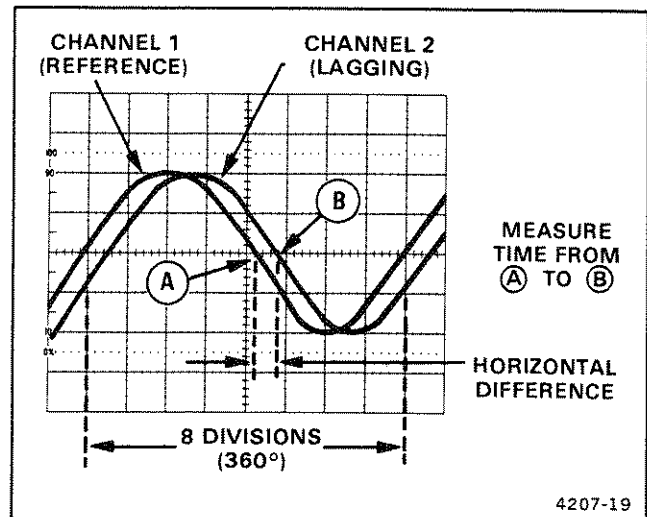
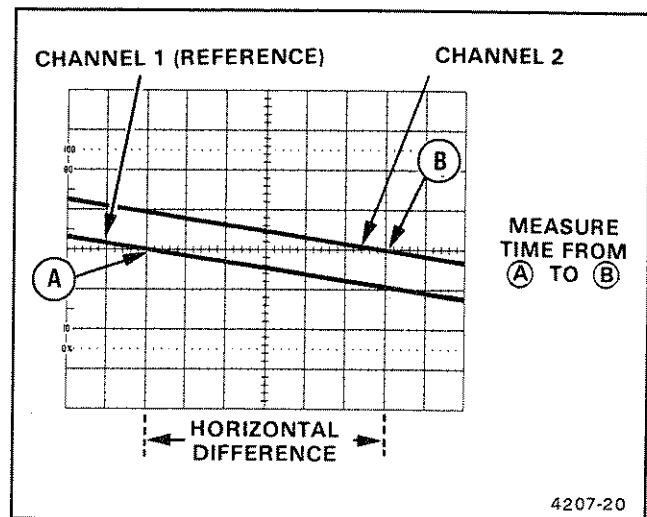

Figure 2-17. Phase difference.
Figure 2-18. High-resolution phase difference.
9. Position the displays and adjust the SEC/DIV Variable control so that one reference-signal cycle occupies exactly 8 horizontal divisions at the 50% rise-time points (see Figure 2-18). Each division of the graticule now represents 45° of the cycle (360° ÷ 8 divisions), and the horizontal calibration can be stated as 45° per division.
Example: The horizontal difference is 0.6 division with a graticule calibration of 45° per division, as shown in Figure 2-17.
EXAMPLE: If the sweep speed were increased 10 times with the magnifier (X10 Magnifier knob out), the magnified horizontal calibration would be 45°/division divided by 10 (or 4.5°/division). Figure 2-18 shows the same signals illustrated in Figure 2-17, but magnifying the displays results in a horizontal difference of 6 divisions between the two signals.